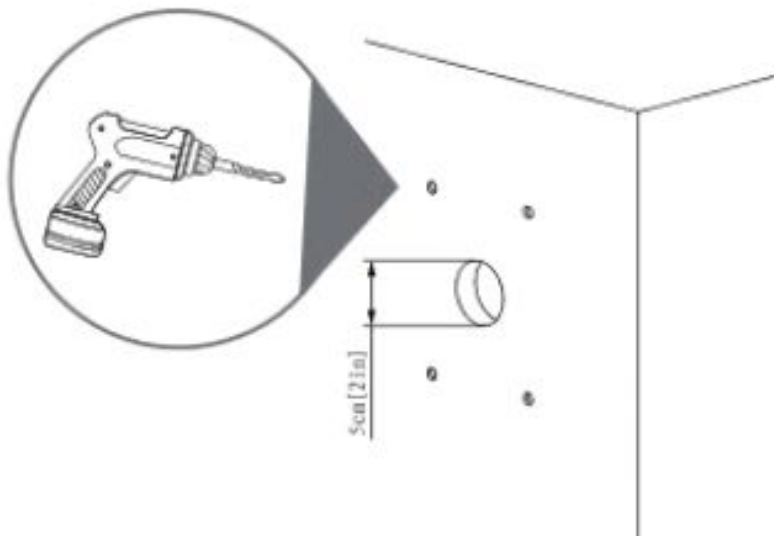

Figure 2-2
Step 2 Drill the appropriate mounting holes and cable exit. See Figure 2-2.